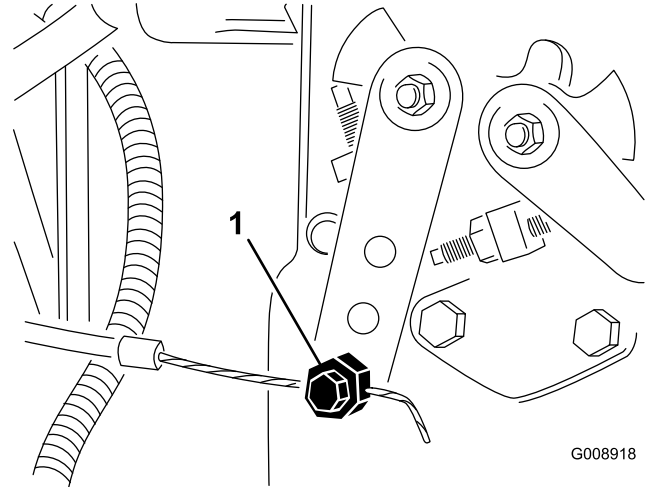

Figure 71
2. Loosen the throttle cable connector on the injection pump lever arm (Figure 71).